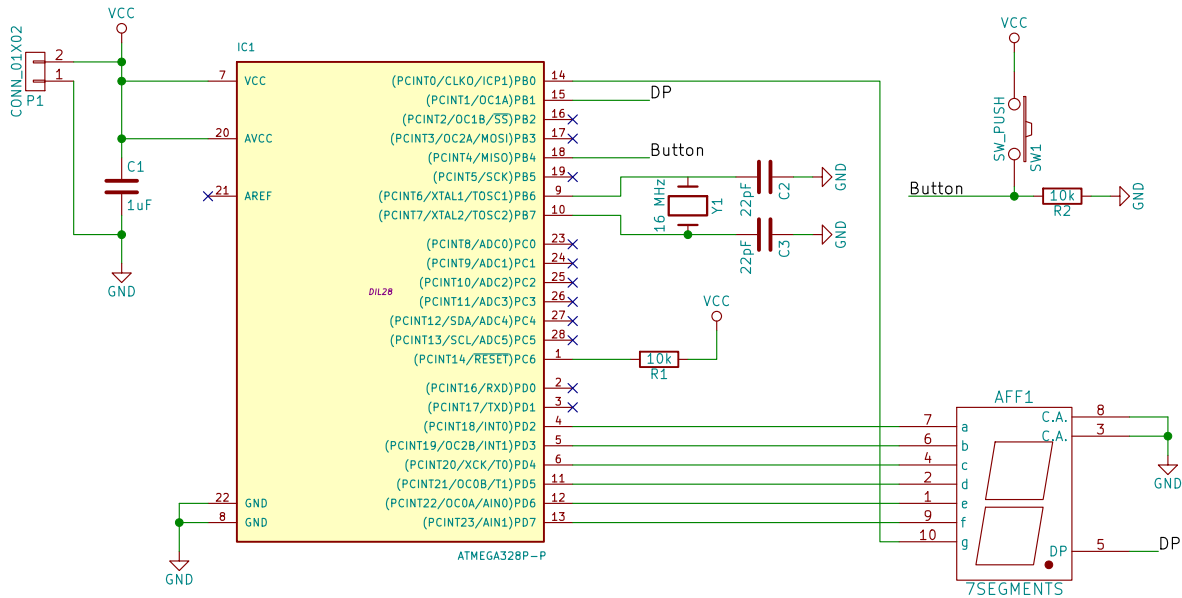

Figure 7: Completed schematic drawing of Example 1 circuit.
12. The final schematic should look like that in Fig. 7.